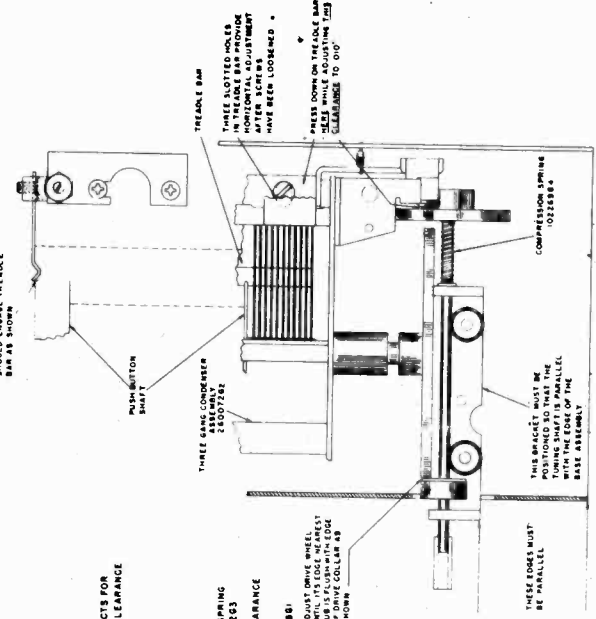
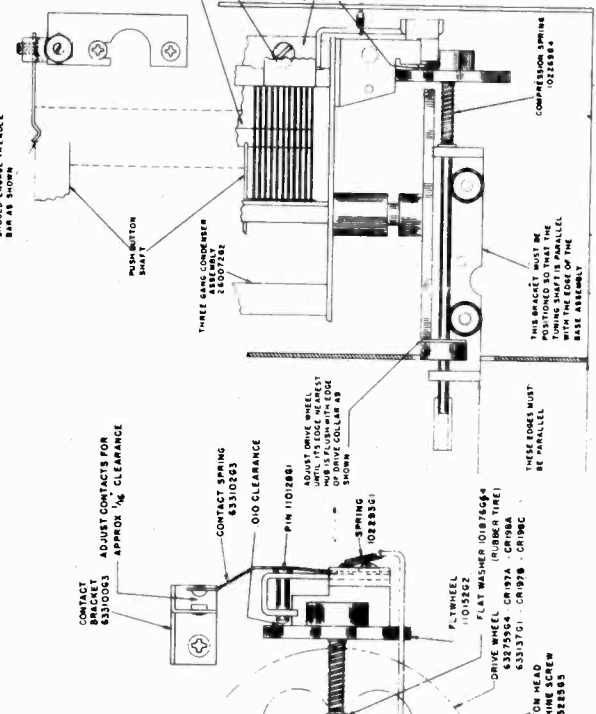

FIGURE 4
FIGURE 5
Whenever any of the mechanical parts in the condenser gang drive assembly require replacement due to rough handling or for any other reason, it is extremely important that clearances and adjustments shown on Figures 4 and 5 are correct; otherwise, the tuning mechanism will be sluggish, or it may slip during operation. In reassembling the mechanism after any part was replaced, follow the procedure outlined below:
1. Assemble the Tuning Shaft, Drive Collar, Compression Spring and Flywheel in the order shown on Figure 5. The distance between the front of the Drive Collar and the front of the Tuning Shaft must be 1 1/2 inches as specified on Figure 4. Install the Flywheel on the rear of the Tuning Shaft and slide it forward until it nearly touches the edge of the Drive Wheel; then tighten one of the set screws in the Flywheel hub. Insert a .010" gauge between the Flywheel and the Pin, and while holding the gauge in this position, loosen the set screw in the Flywheel hub that was previously tightened. The Compression Spring should force the Flywheel back against the gauge—when this occurs, tighten both set screws in the Flywheel hub.
3. The Drive Wheel is properly located on its shaft when its edge "rears" the hub in line with the outside edge of the Drive Collar as shown on Figure 5. Two Allen set screws in the Drive Wheel hub provide a means of adjusting the position of this wheel.
5. If the push button shafts at both ends do not engage the Treadle Bar as shown on Figure 5, the three screws in the Treadle Bar must be loosened and the Treadle Bar should be moved until the required condition is obtained.